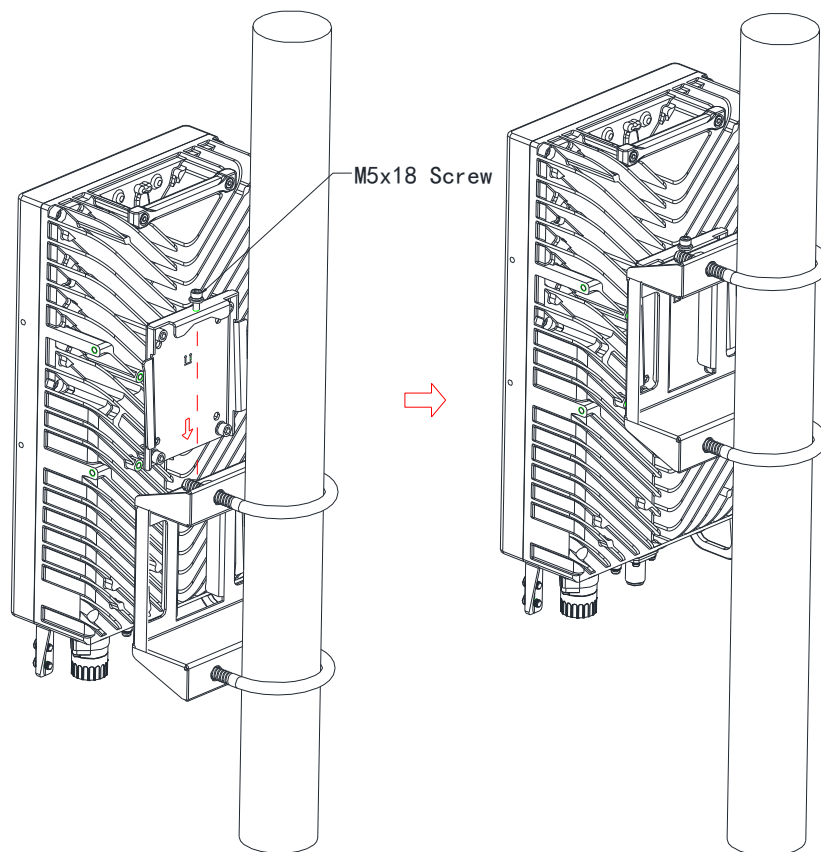

Figure 2.5.3 RRH Pole-mount Complete Diagram
Step 3: put the RRU prepared previous in step 1 insert to the mounting bracket 2, and lock the device with M5 screw, as shown in Figure 2.5.3.